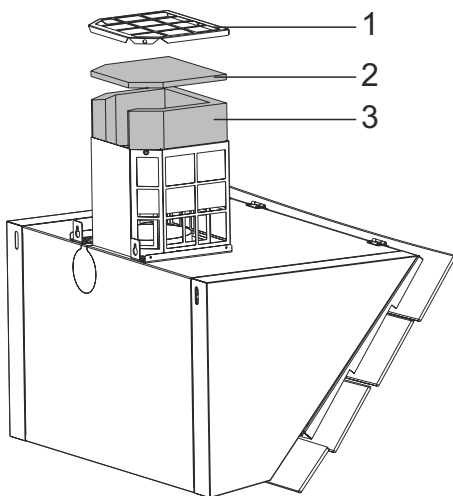

Fig. 7
- Remove the top cover of the carbon filter housing to access the washable carbon filter pads (Fig. 7).
- Now take out the washable carbon filter pads (Fig. 7).